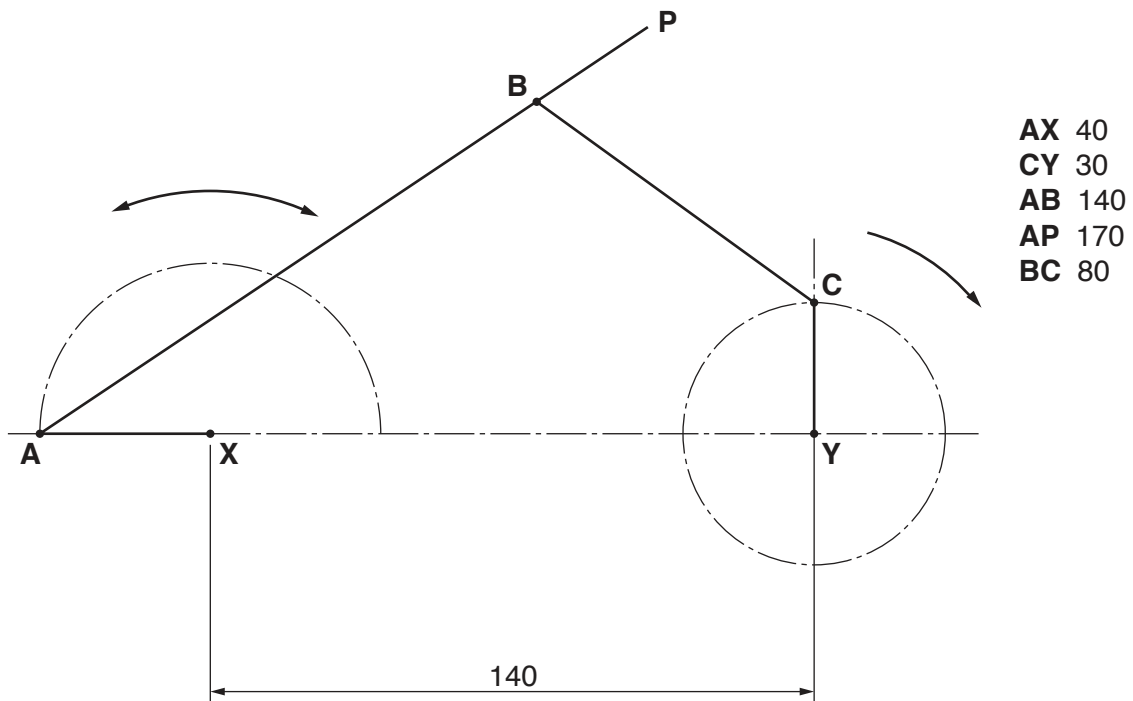

Fig. 7
- 9 Fig. 7 shows a mechanism used in weaving fabrics.